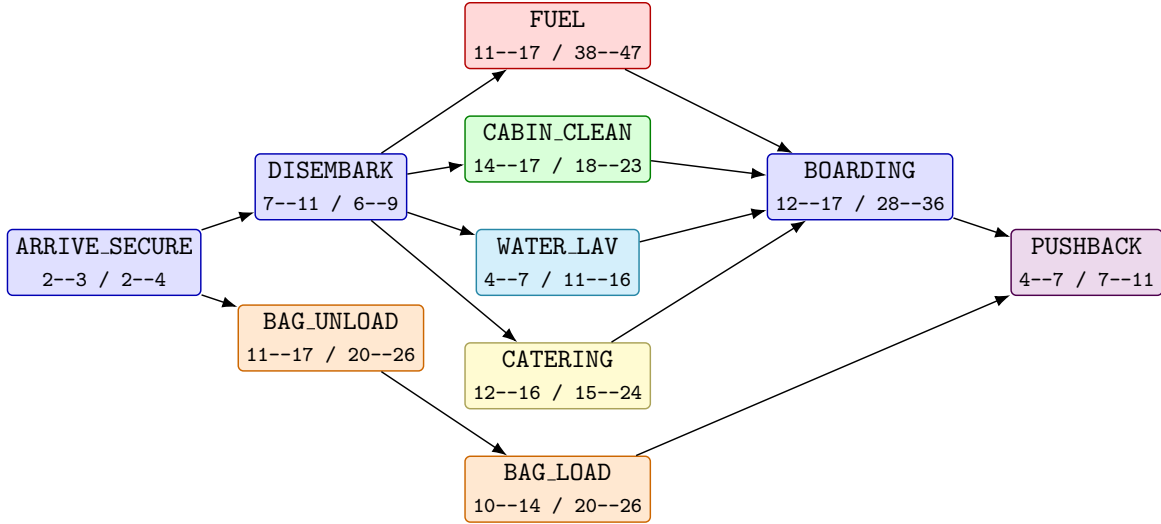

Figure 1: **Domestic passenger profile.** Durations in minutes.
Every flight's task list is fixed by its *service profile*, namely the combination of carrier, aircraft size, and operation type. There are three structurally distinct task graphs, one per profile family. They are drawn in Figures 1, 2, and 3. Each task node is colour-coded by the labour *kind* of crew it requires: **ramp_team** **baggage_team** **fuel_team** **catering_team** **cabin_clean_team**
- **C8.** Whenever a flight has two tasks whose kinds are in a precedence relation (see Figures 1, 2, and 3), the predecessor must finish before the successor starts.